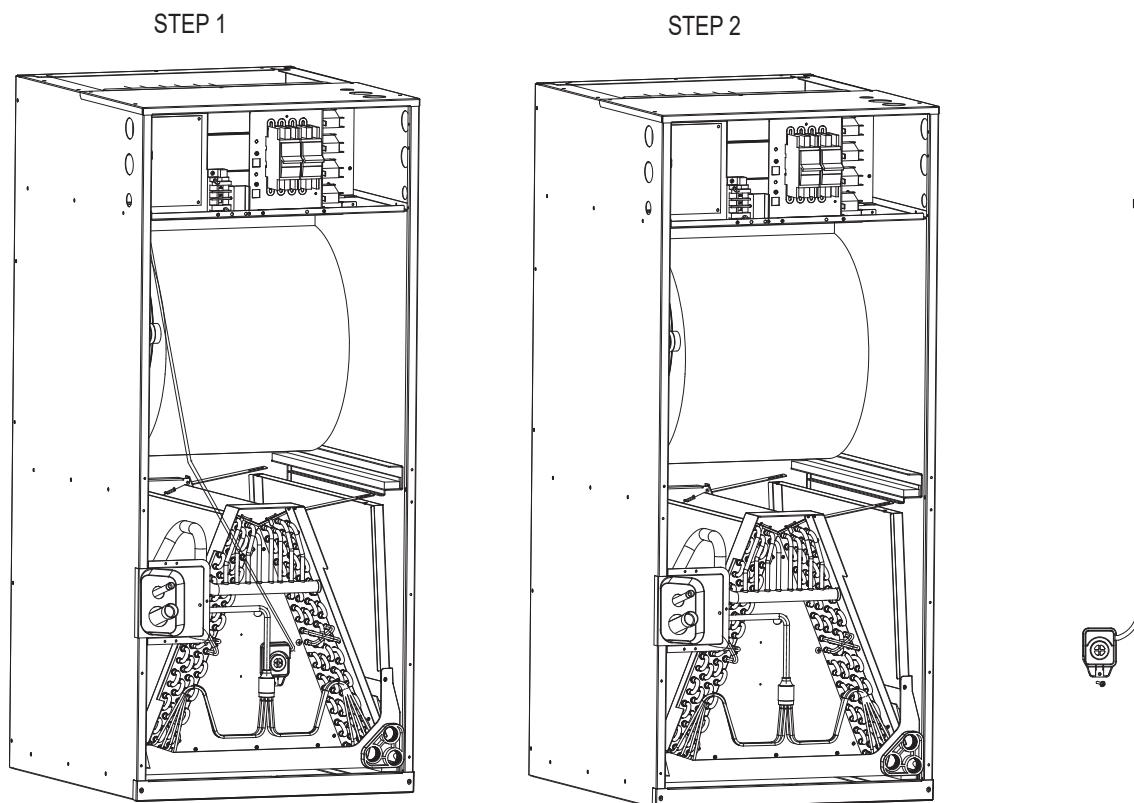

Figure 3.5 Steps to replacing the R32 refrigerant leakage detection sensor
1. Remove the screws and the front panel, and disconnect the plug of R32 refrigerant leakage detection sensor wire from the circuit board (Figure 3.5, Step 1).
2. Remove the screws and pull out the R32 refrigerant leakage detection sensor with the wire (Figure 3.5, Step 2).